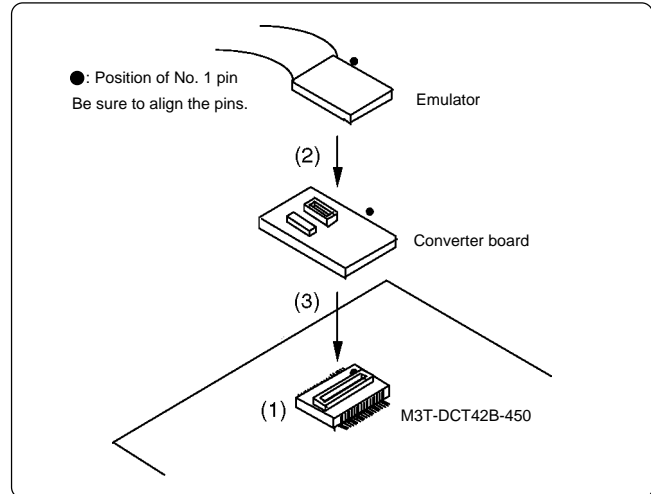

Figure 2 Usage
4. Usage (See Figure 2)
5. Connection Procedure (See Figure 2)